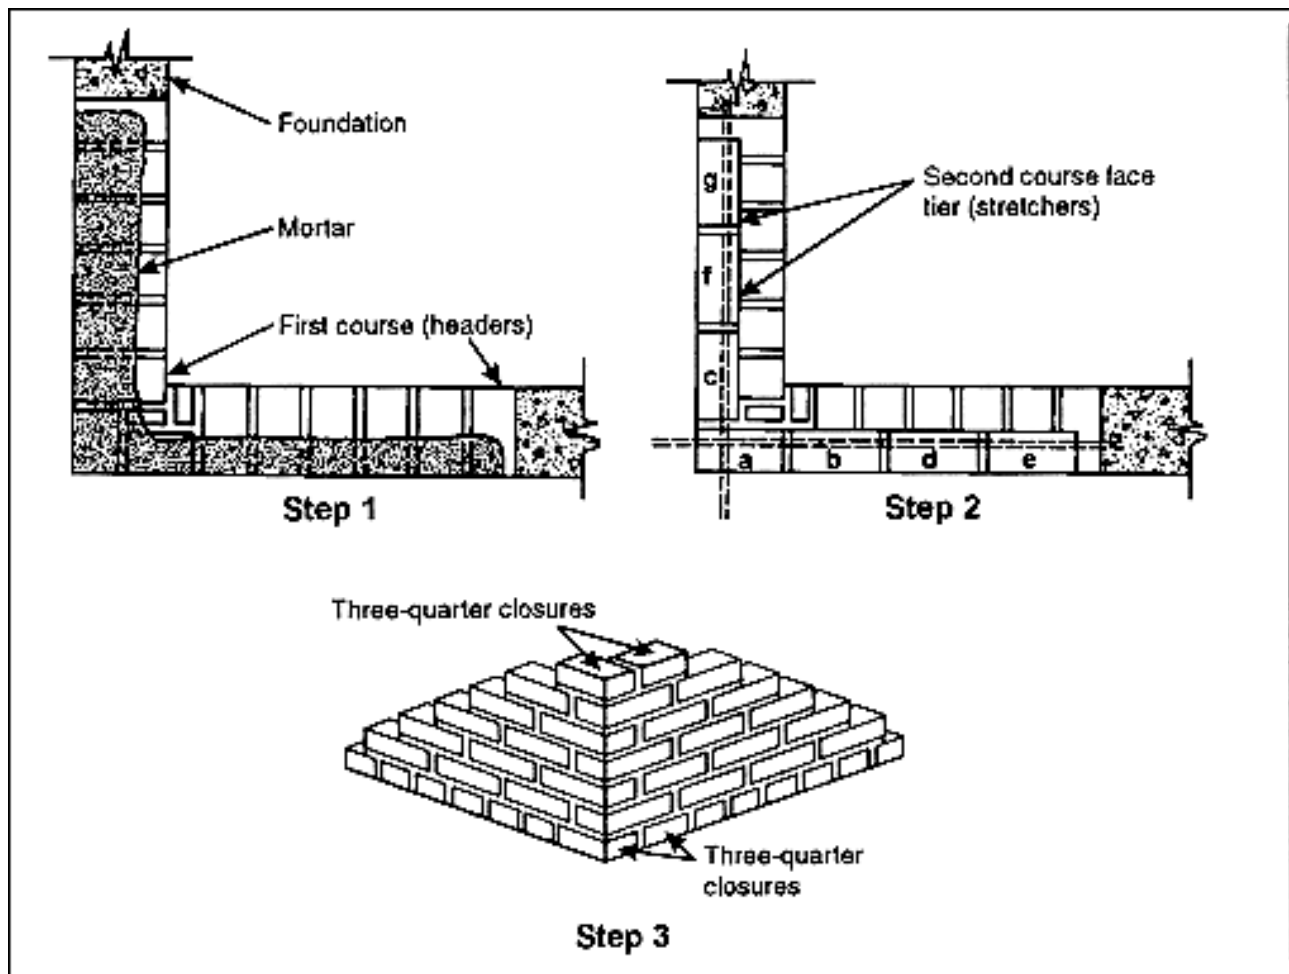
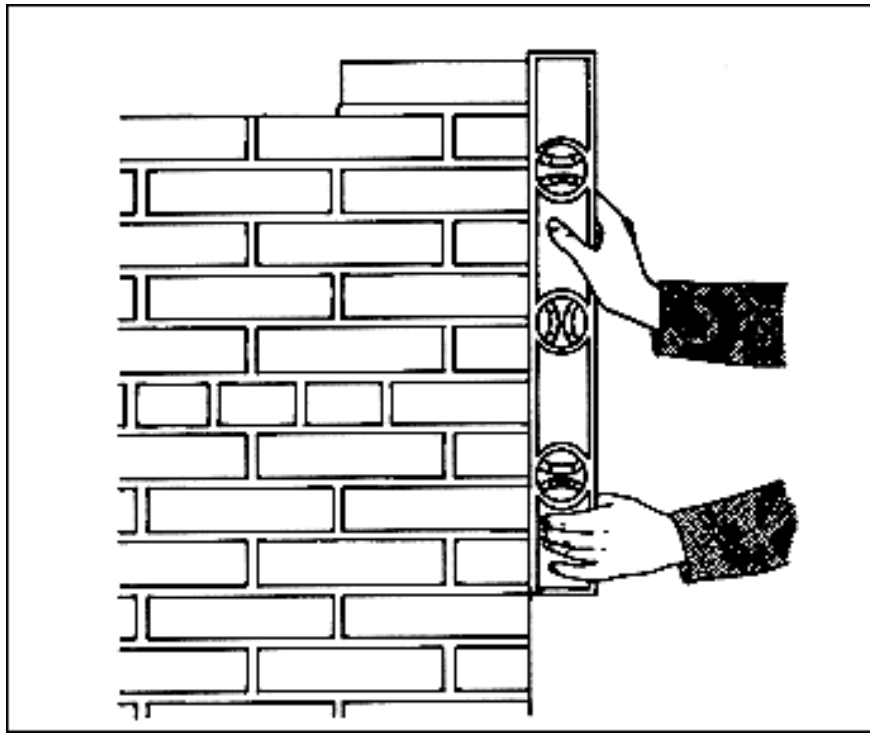

Figure 9-23. Laying second course of corner lead for 8-inch common-bond brick wall
Figure 9-24. Plumbing a corner
9-47. Lay the second course of the corner lead (a stretcher course) as shown in steps 1 and 2 of Figure 9-23 below.
Step 2. Push brick (a) (see step 2 of Figure 9-23) into the mortar bed until it makes a joint 1/2 inch thick.
Step 4. Lay bricks c, d, e, f, and g the same way. Check them by placing the mason's level in the position shown in step 2 of Figure 9-23 to make sure they are level.
Step 5. Plumb the corners in several places by placing the mason's level in the vertical position as shown in Figure 9-24 below. As step 3 of Figure 9-23 shows, the second course requires seven bricks.